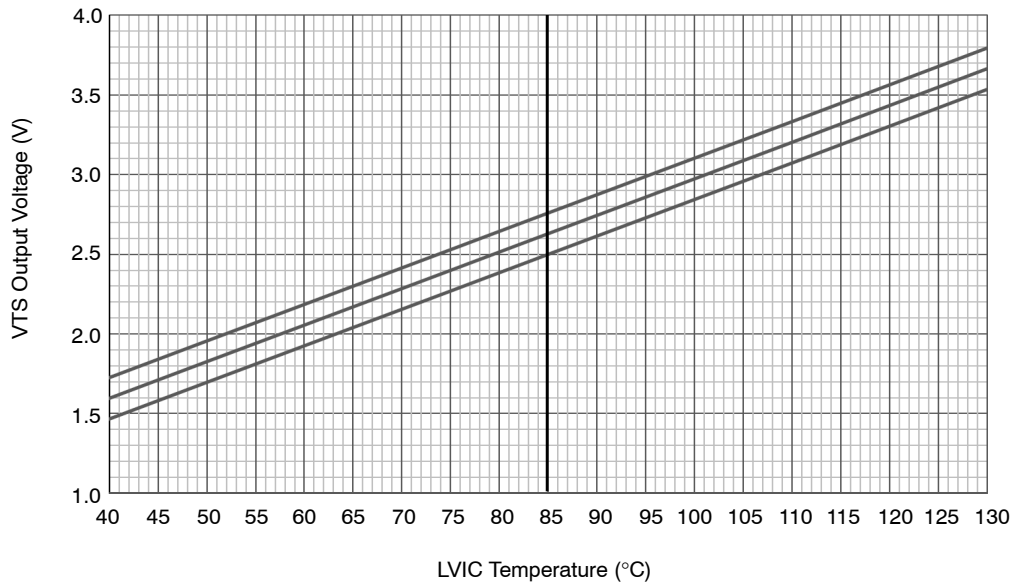
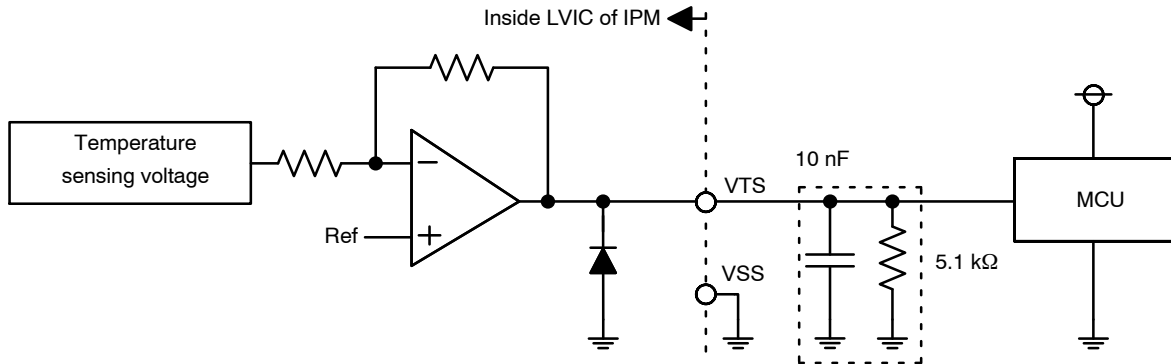

Figure 4. Temperature of LVIC vs. VTS Characteristics
Figure 5. Internal Block Diagram and Interface Circuit of VTS
- TLVIC is the temperature of LVIC itself. VTS is only for sensing temperature of LVIC and cannot shutdown IGBTs automatically. The relationship between VTS voltage output and LVIC temperature is described in *Figure 4*. It is recommended to add 5.1 kΩ pull down resistor between VTS and VSS (Signal Ground) as described in *Figure 5* for linear output characteristics at low temperature. Refer to the application note for usage of VTS.
To avoid malfunction, the wiring of each input should be as short as possible (less than 2–3 cm). Each capacitor should be mounted as close to the pins of the product as possible. VFO output is open–drain type. This signal line should be pulled up to the positive side of the MCU or control power supply with a resistor that makes IFO up to 1mA. Please refer to Figure 5.